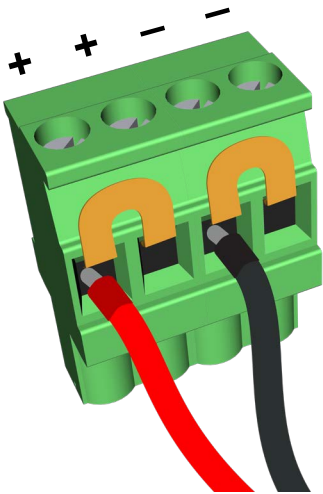
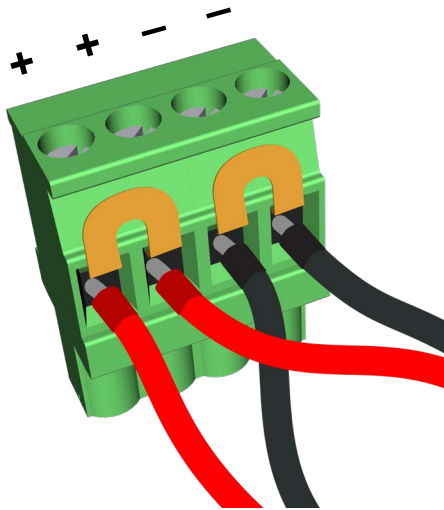

Figure 5a. Wire single loudspeaker
Figure 5b. Daisy chain multiple loudspeakers
- Attach the loudspeaker cables according to whether you are connecting a single loudspeaker (Figure 5a) or daisy chaining more than one (Figure 5b).